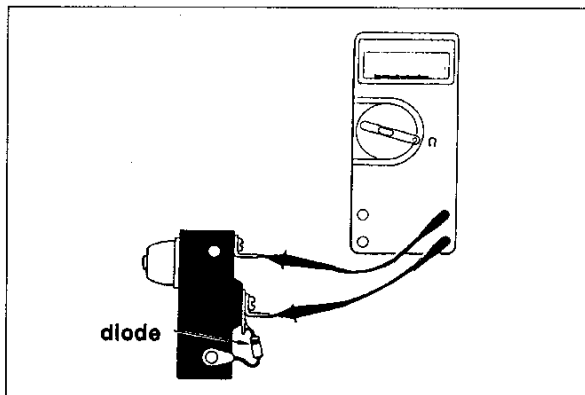

FIG. 1.1.33
**Correction:** Check that connections are made and are tight. Check for corrosion on terminals and clean as required. Check function of fuel pump switch. With the switch open, the VOM should register an "O.L." condition (Fig. 1.1.33). With the switch closed (plunger released), the VOM should register continuity. Replace or adjust as needed.